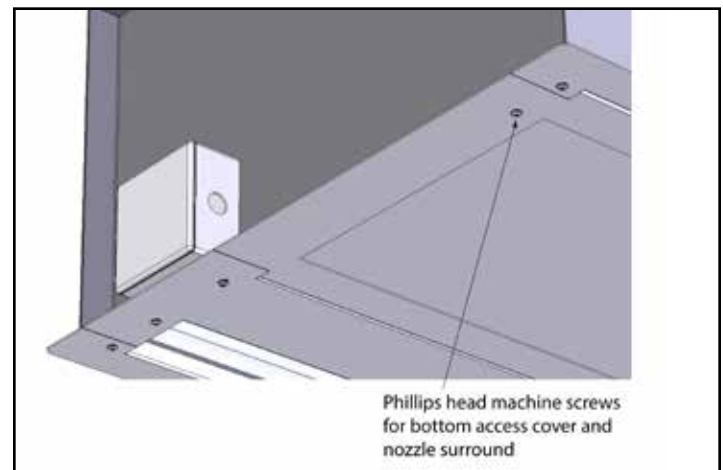
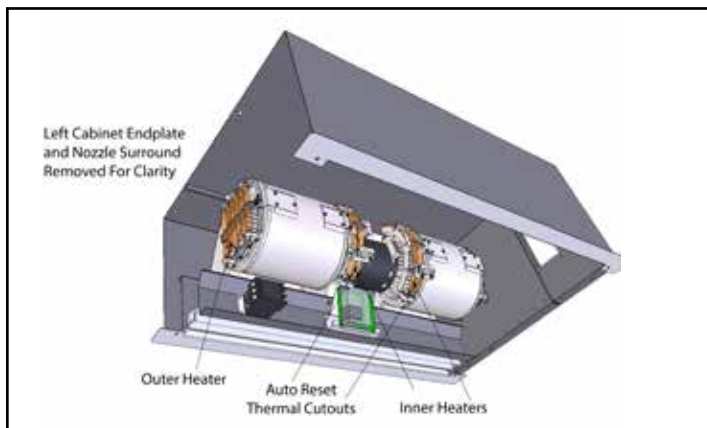

Figure 6
Figure 7
- B. Remove the bottom access cover by removing (2) Phillips head machine screws located at the cover's corners. **See Figure 6.**
2. Remove the bottom access cover by removing (4) Phillips head machine screws located at the cover's corners. **See Figure 6.**
3. If desired, the nozzle surround may be removed to provide more working room. To remove the nozzle surround, remove the (4) Phillips head machine screws from the corners. The Intelliswitch® ribbon cable must also be disconnected from the back of the display circuit board before the nozzle surround can be set aside.
5. If the unit has electric heat, the heaters need to be disconnected from supply wiring. Each fan housing will have a heating element on both of its sides, spanning the inlet venturi. Each heating element will have (2) ¼" quick disconnects for power supply wiring. In addition, the heating elements located on the inside of the module will have (2) ¼" quick disconnects for the auto reset thermal cutouts. Label and separate all of those connections. **See Figure 7.**
4. Label and detach the connections for supply power and for the auto reset thermal cutouts located on both inner heaters. **See Figure 7.**